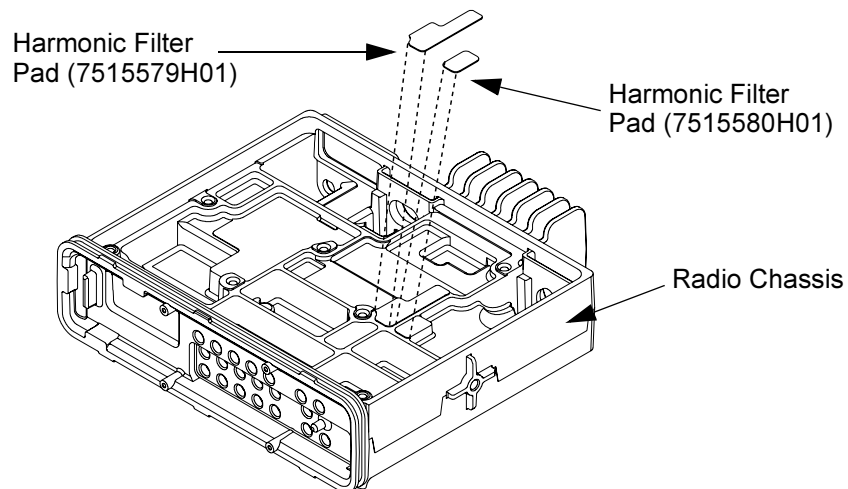

Figure 5-20. Replacing Thermal Pads
3. Once the surface is clean and dry, remove the new pad from the shipping liner, and place it white side down on the chassis as shown in Figure 5-20.